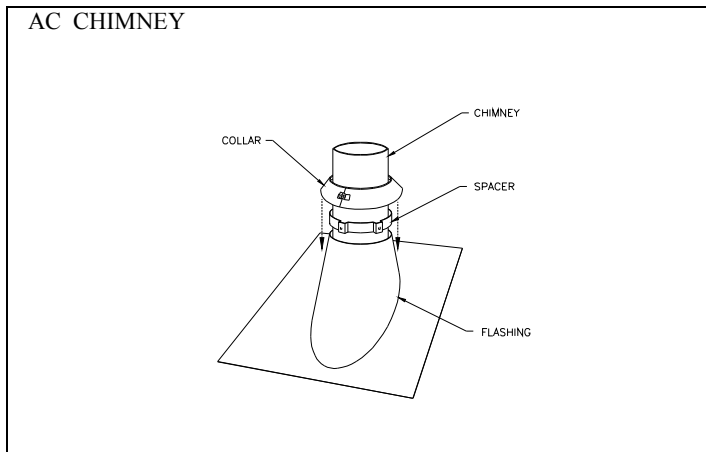

Figure 26
5. Then, put the roof flashing in place and seal the joint between the roof and the flashing with roofing pitch. (See figures 26 & 27). For sloping roofs, place the flashing under the upper shingles and on top of the lower shingles. Nail the flashing to the roof, using roofing nails.